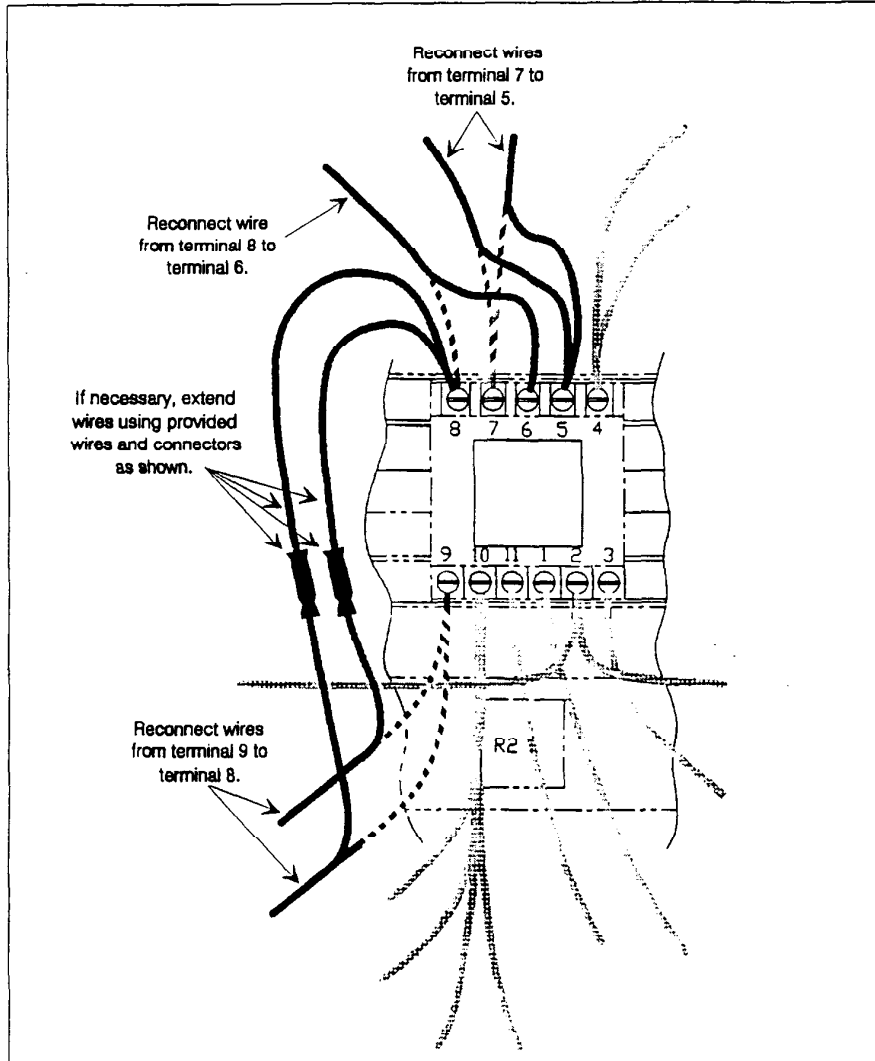

Figure 1. Required wiring connections for revised 11-pin R2 relay base.
2. For models with 11-pin R2 relay base only (AB-350A, AB-500A, and AB-18), the relay base must be rewired as shown in figure 1. If necessary, use provided wires and connectors to extend wires leading to base terminal, as shown in figure 1.